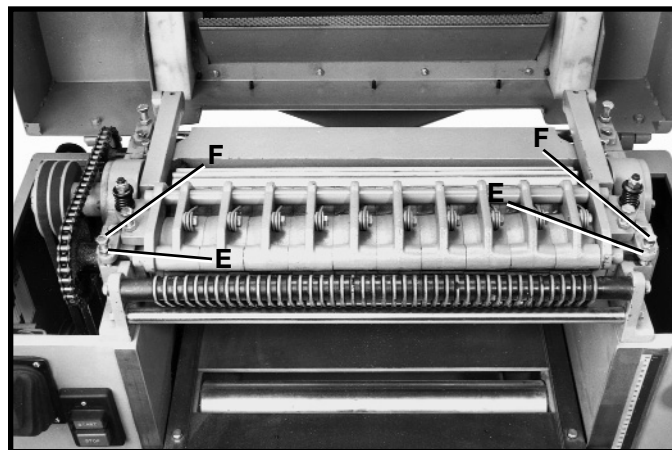

Fig. 48
5. If an adjustment is necessary, loosen locknut (E) Fig. 48, and turn adjustment screw (F) until the infeed roller just touches the top of gage block (A).
7. Tighten locknuts (E) Fig. 48, after adjustments are completed.